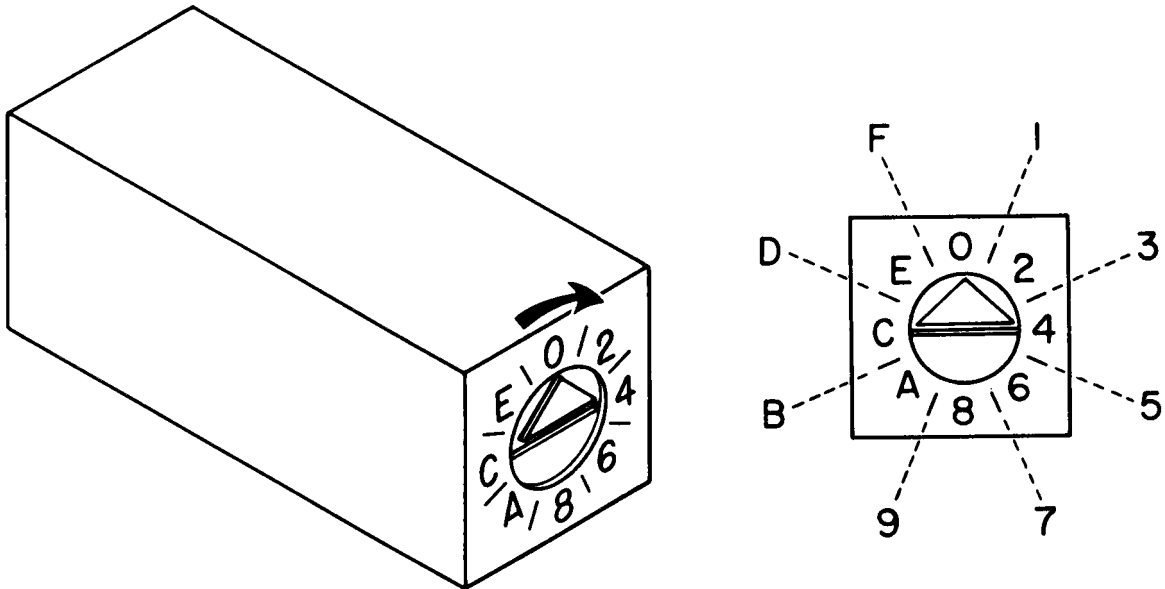

Figure 1-10. Hexadecimal Rotary Switch Operation
c. Hexadecimal Rotary Switches. The face of a hexadecimal rotary switch has alphanumeric characters and hashmarks circled around an arrow-type-pointer dial (fig. 1-10). The hashmarks between the characters represent the missing values. The dial or selector always rotates clockwise. To select a hexadecimal